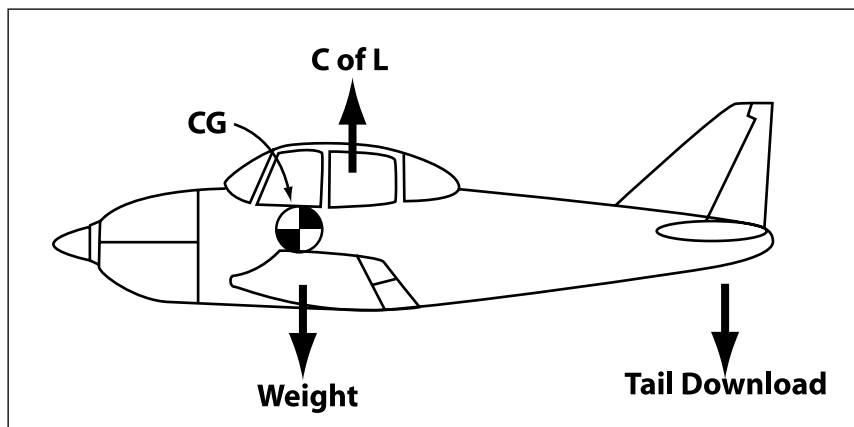

Figure 1. Straight and level flight
Most aircraft have a nose-down pitching moment from the wings because the center of gravity (CG) is ahead of the center of pressure. It is the role of the tailplane to counteract this moment by providing "downward" lift. (See Figure 1).